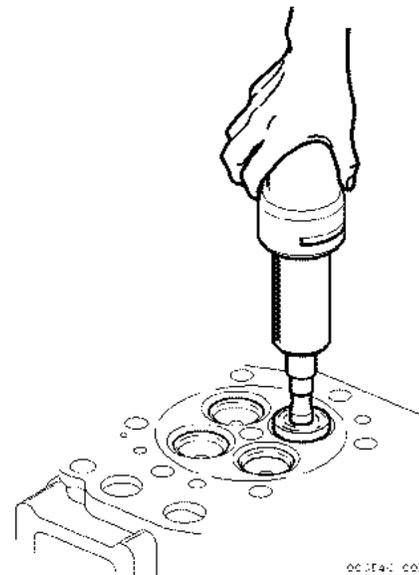
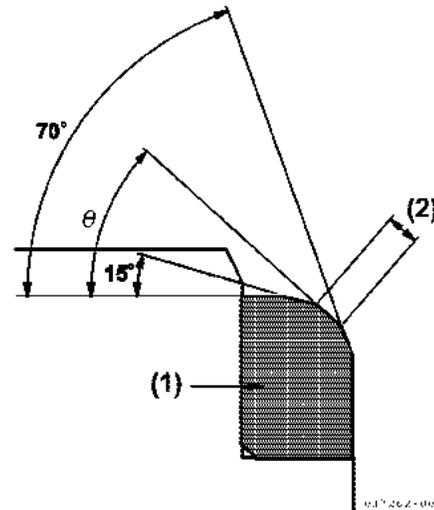

Figure 5-66
Figure 5-67
- Use a seat grinder to make the surface even. As the valve seat width will be enlarged, first use a 70° grinder, then grind the seat to the standard dimension with a 15° grinder (Figure 5-66) and (Figure 5-67).